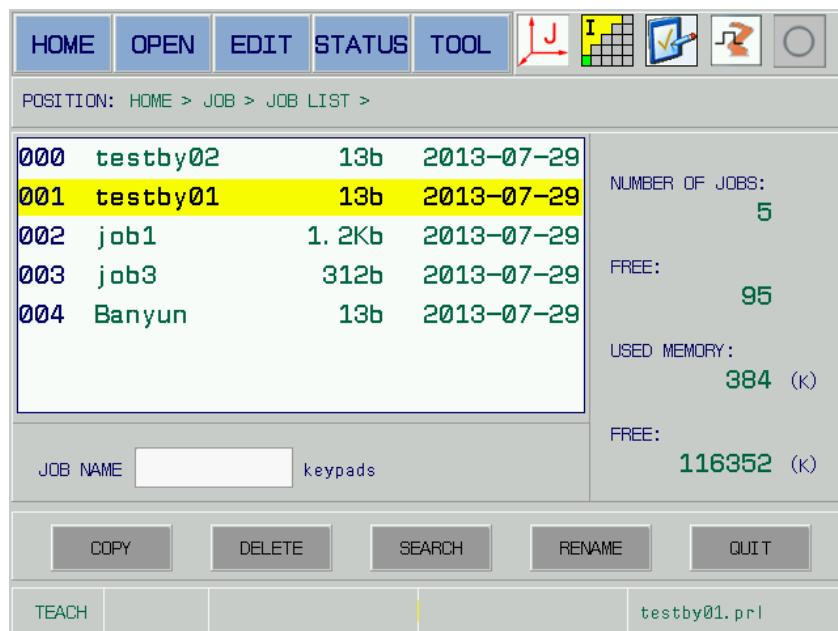

Fig. 5-10
- Shift cursor to the {JOB} menu by [TAB] and left/right direction button, then open the {Job list} submenu by [SELECT]; refer to Fig. 5-10.